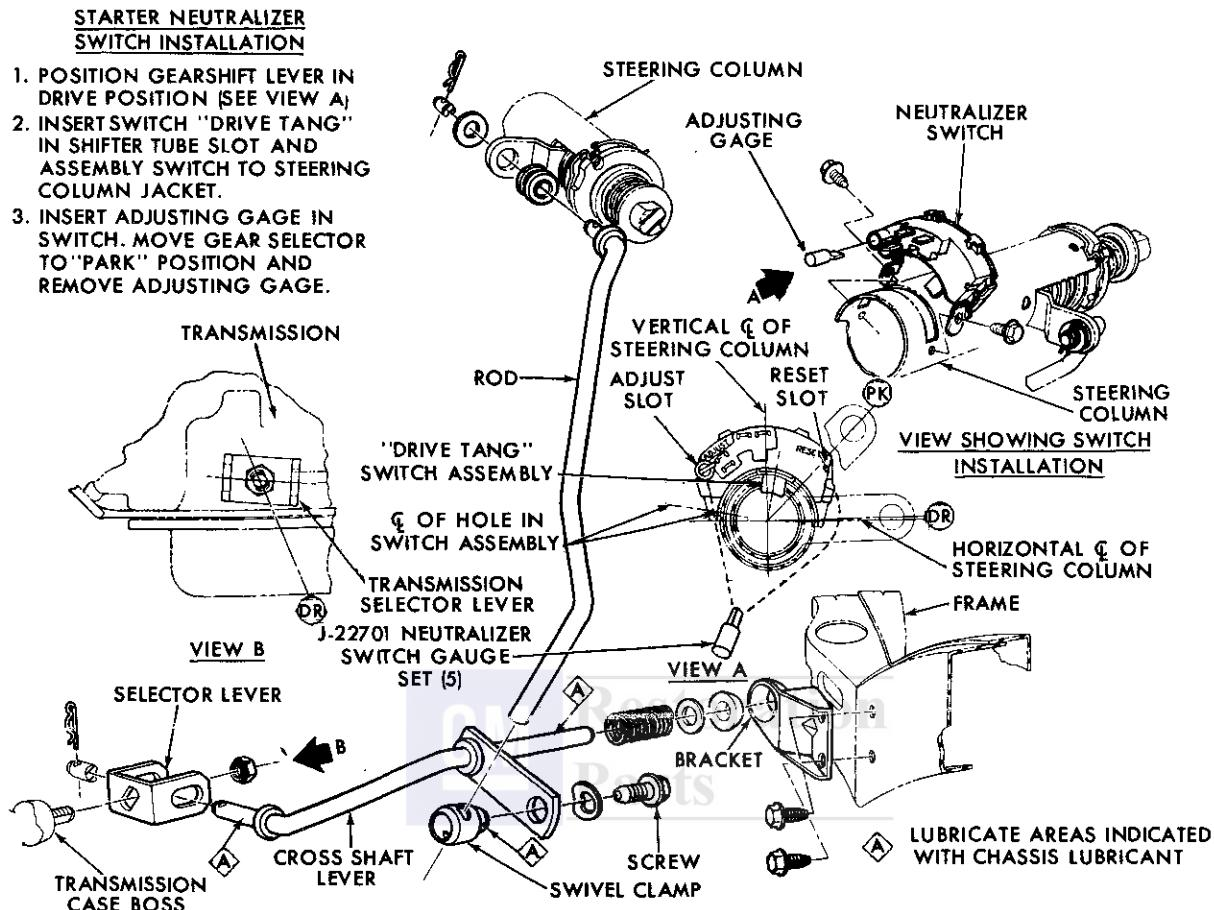

Fig. 7F-5 Tempest Column Shift Linkage
5. Support end of governor sleeve (not gear) on a wood block. Install new roll pin; then using small chisel, stake pin in place at both ends of pin to prevent pin from becoming loose (Fig. 7F-12).